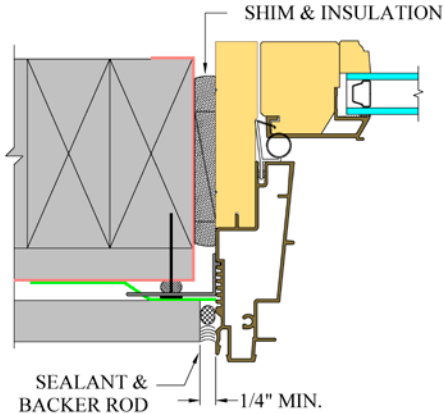
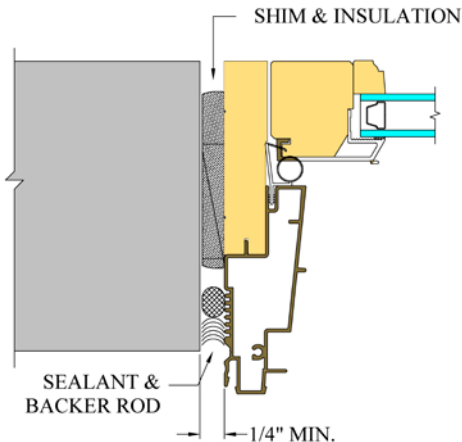

Fig. 30: Side Jamb - Nail Fin Installation
Fig. 32: Side Jamb - No Nail Fin Installation
- A) After siding or wall exterior is complete, apply backer rod and sealant between the door frame and siding material on both sides. See figures 30 & 31 for nail fin installation and figures 32 & 33 for no nail fin installation.
- C) Insulate between the door frame and the rough opening using minimally expanding window and door spray foam insulation. Use caution to not overfill the gap causing the jambs to bow. It is not recommended to apply trim to the unit until the foam has cured to allow the excess to escape. (Fig. 30, 31, 32 & 33)